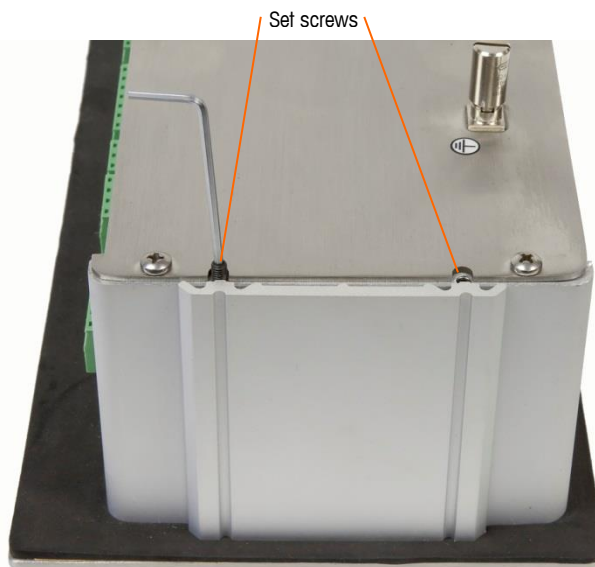

Figure A-8: Clamping Bracket Installed
7. Secure the terminal to the panel by inserting the clamping brackets into the channels on the side of the IND560x enclosure and installing the four Allen-head screws as shown in Figure A-8. All four set screws should be tightened to 0.55 Nm (5 in-lbs).